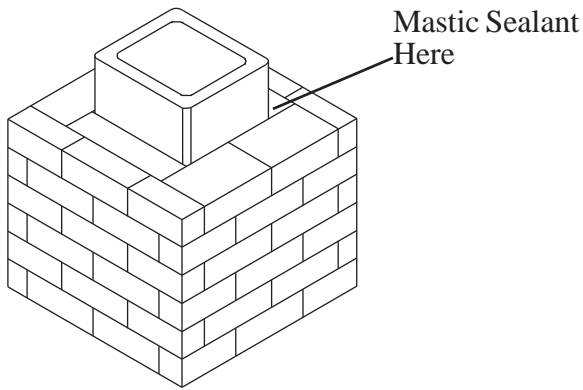

Fig 7
3. Secure the Flashing to the top of the masonry chimney using a bead of non-hardening mastic sealer. If the Flashing is larger than the top of the chimney, then cut and fold flashing as needed to fit chimney. See Figure 7.